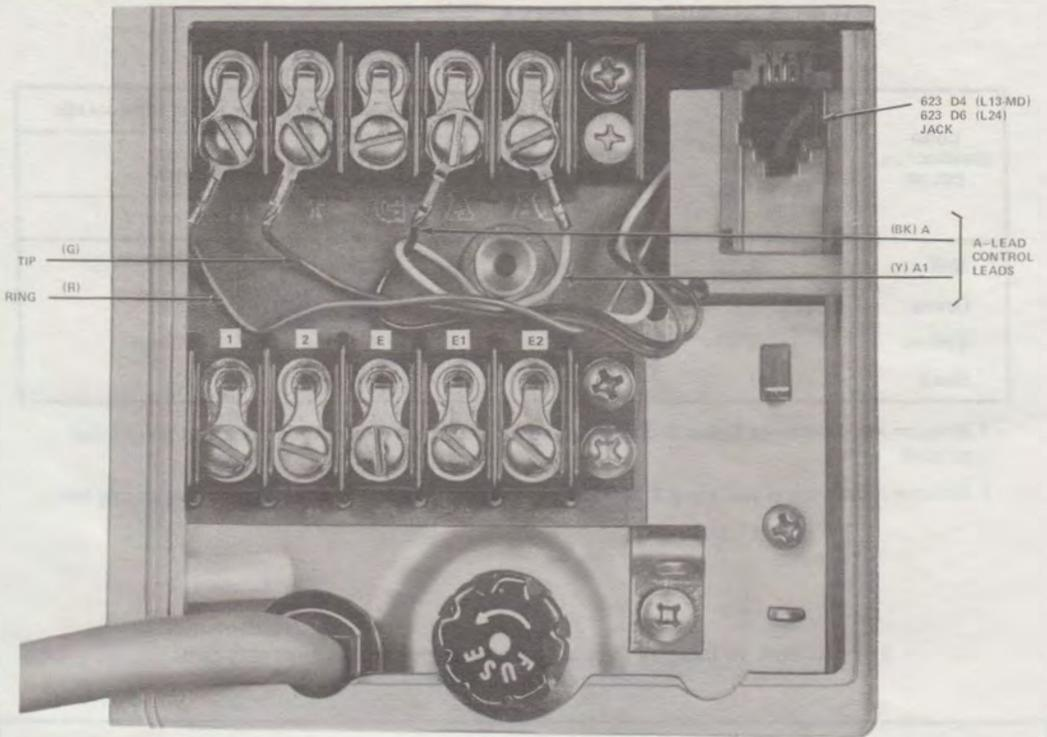

Fig. 29—KS-19245, List 13 (MD) Telephone Answering Set—Terminal Board
- (b) For List 13 (MD) telephone answering set only, insert a D4BU mounting cord (ordered separately) into the 623D4 jack at rear of set (Fig. 29).
- (c) ♦For List 24 (MD) or 26 telephone answering set only, insert D6AP mounting cord (ordered separately) into the 623D6 jack in rear of answering set (Fig. 29).♦